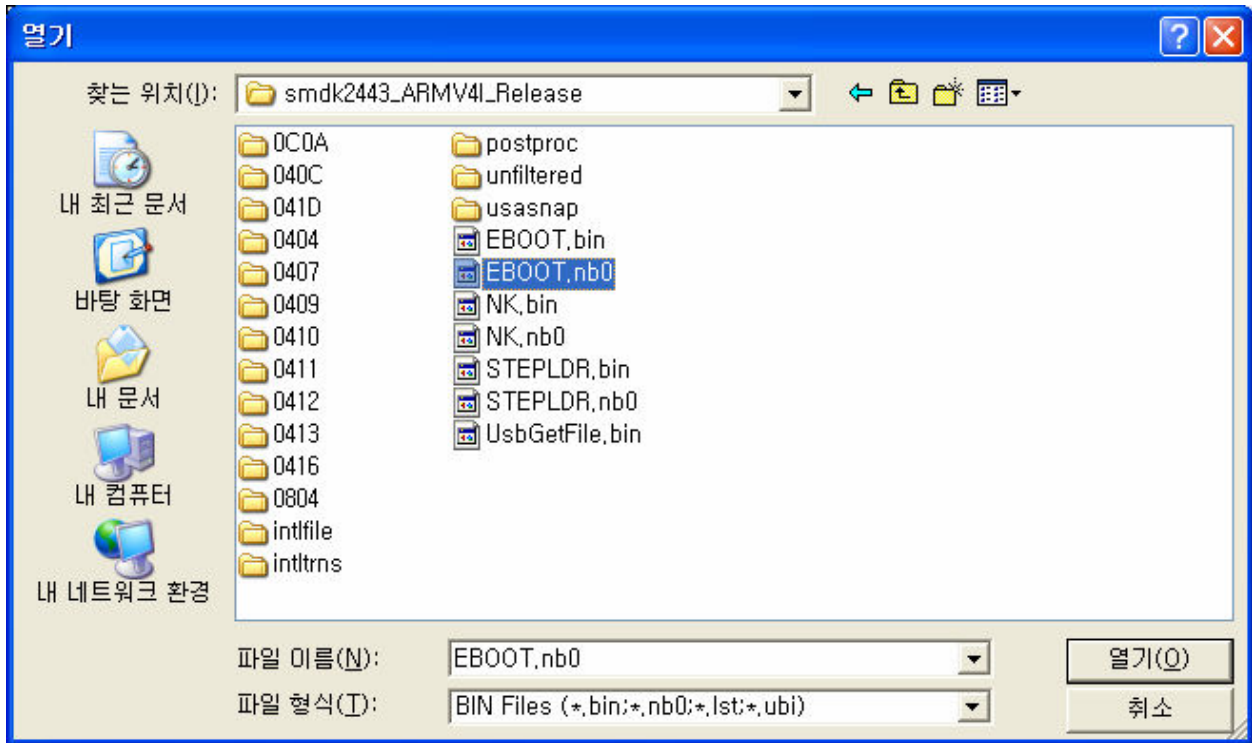

Figure 6-8 Selecting EBOOT.nb0 for Download
12. Once download begins, a download status bar appears on your screen as shown in figure 6-8.